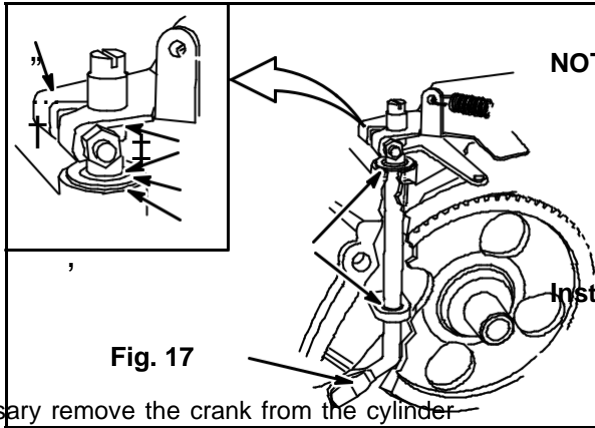

Fig. 17
1. Inspect the governor crank (2) for wear or damage, Fig. 17.